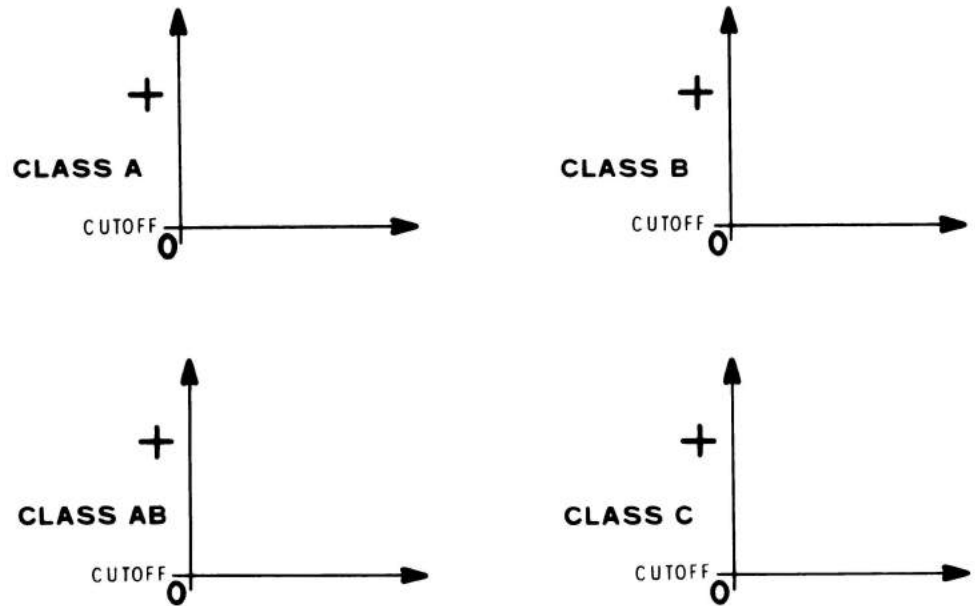

Figure 4-35
16. Draw the output current waveform, for a sine wave input, for the classes of amplifier operation indicated in Figure 4-35.